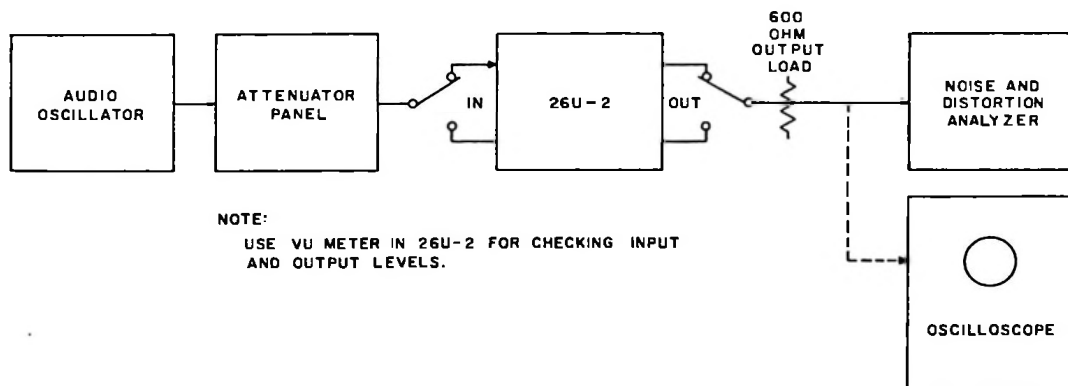
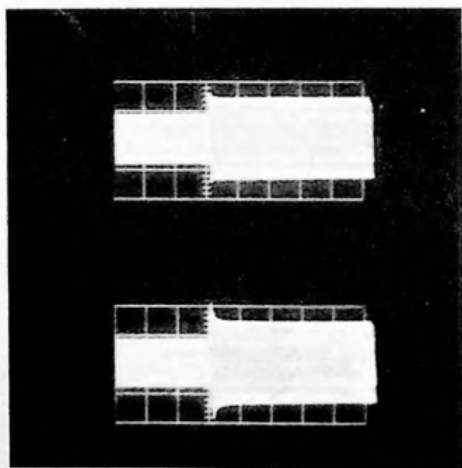
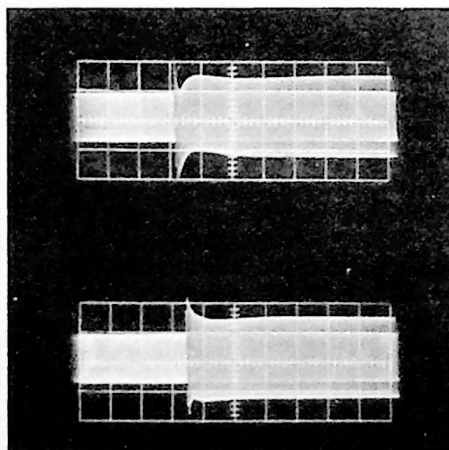

Figure 5-1. Test Setup, Block Diagram
Figure 5-2. 26U-2 Stereo Peak Limiter, Attack Time
Figure 5-3. 26U-2 Stereo Peak Limiter, Unbalancing
e. Connect the audio oscillator to one input of the 26U-2 through the Daven attenuator panel with at least 10 db of attenuation inserted. (See figure 5-1.)
An oscilloscope may be used to check balance, if desired. Attach the oscilloscope to the amplifier output, and synchronize it to the 1000-cps input so several cycles can be observed. With the 26U-2 set on the verge of compression, remove 10 db of attenuation from the Daven attenuator panel, and observe the pattern. When the 26U-2 is balanced, the change in amplitude with increase will be uniform as shown in figure 5-2. While watching the attack time, switch 10 db of attenuation in and out. Set R12 (R112) for best point of balance. Figure 5-3 is a photograph of a 26U-2 unbalanced to both limits of R12 (R112). The input level was increased from 4 db below threshold to 6 db above threshold. Each division equals 50 milliseconds.
input signal. Set STEREO MONO switch to MONO (see figure 5-1). Set the 26U-2 on the verge of compression, suddenly remove 10 db of attenuation from the Daven attenuator, and observe the attack time. The attack time should be adjustable between 2 to 5 milliseconds with R52 (R152). See figure 5-2 for illustration of a typical unit for attack time. The top view was made with R52 (R152) set for fast attack time. The bottom view was made with R52 (R152) set for slow attack time. The photographs were made of the output level of the 26U-2 with an input change from 4 db below threshold to 6 db into compression. Each division equals 50 milliseconds.